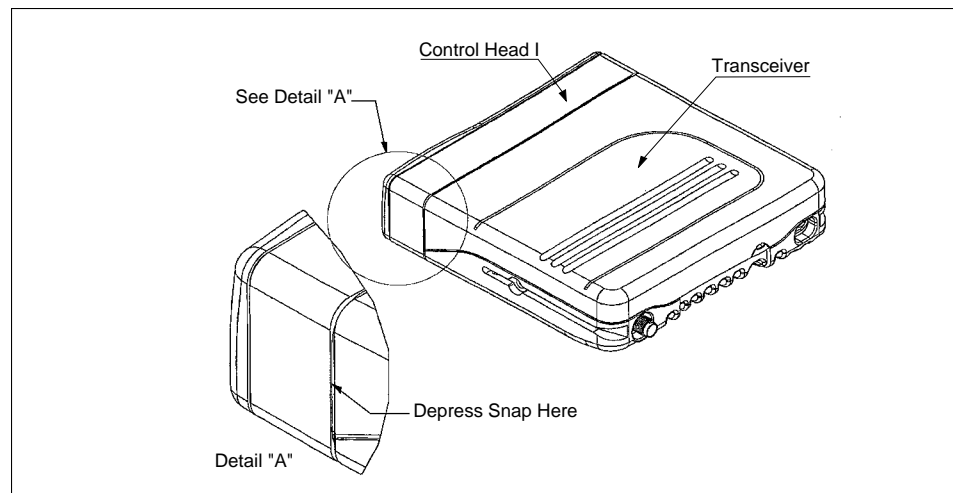

Figure 5-1 Removing the Control Head
3. Insert a small blade screw driver or like instrument in the side groove at the interface between the control head and the transceiver (see Figure 5-1). While pulling the control head away from the transceiver press until the control head side releases, and then repeat the operation on the opposite side.
2. Insert a small flat-blade screwdriver or like instrument in the side groove at the interface between the remote front housing and the transceiver (see Figure 5-1). Press while pulling the housing away from the transceiver until the snap releases. Repeat the operation on the opposite side.